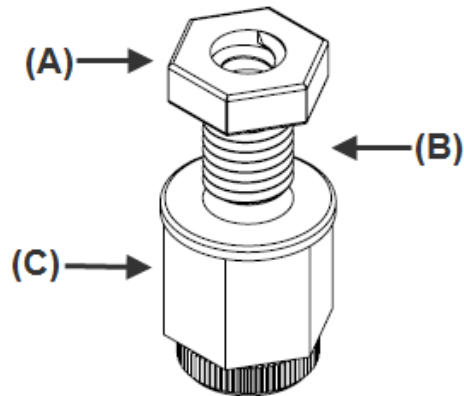
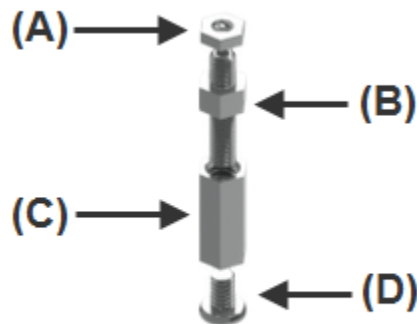

Figure 1 – JSOM Assembly: -01 Lead Style showing Nut (A), Jack Screw (B), and Press-In Stand-Off Base (C).
Figure 2 – JSOM Assembly: -02 Lead Style showing Nut (A), Jack Screw (B), Stand-Off Base (C), and Screw (D).
Figure 1 shows the -01 Lead Style that utilizes a Nut (A), Jack Screw (B), and Press-In Stand-Off Base (C). Figure 2 shows the -02 Lead Style that utilizes a Nut (A), Jack Screw (B), Stand-Off Base (C), and Screw (D).